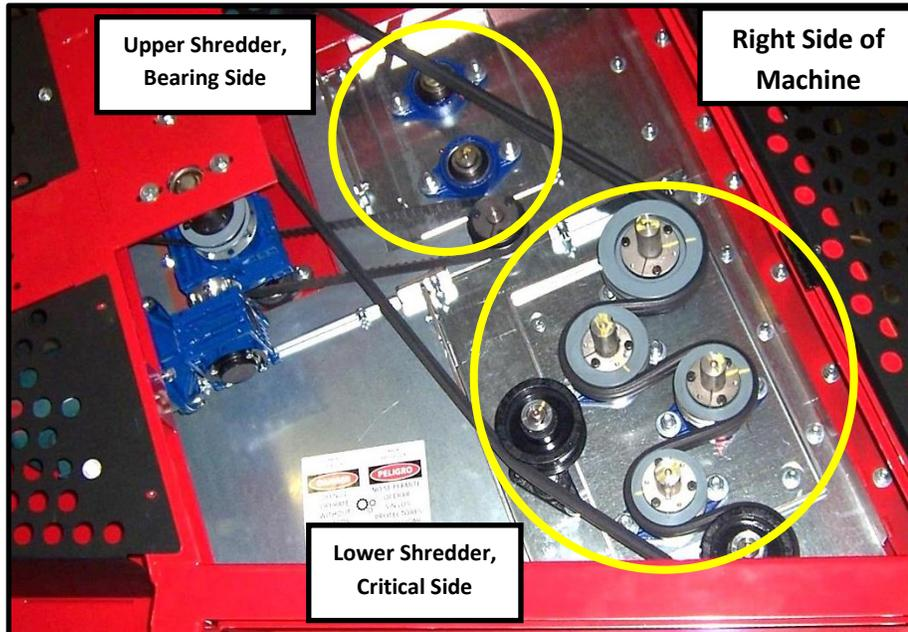

Figure 2
- Concerning each shaft, “critical side” refers to pulley side. “Bearing side” refers to the opposite end of shaft, which **does not** utilize a pulley and is bearing only. These references will aid in locating components. **See Figure 2.**
- Begin procedure on the right side of machine. Locate upper shredder roller shafts, bearing side. There are two (2) shafts. **See Figure 2.**
- Loosen the two (2) set screws in each bearing collar.